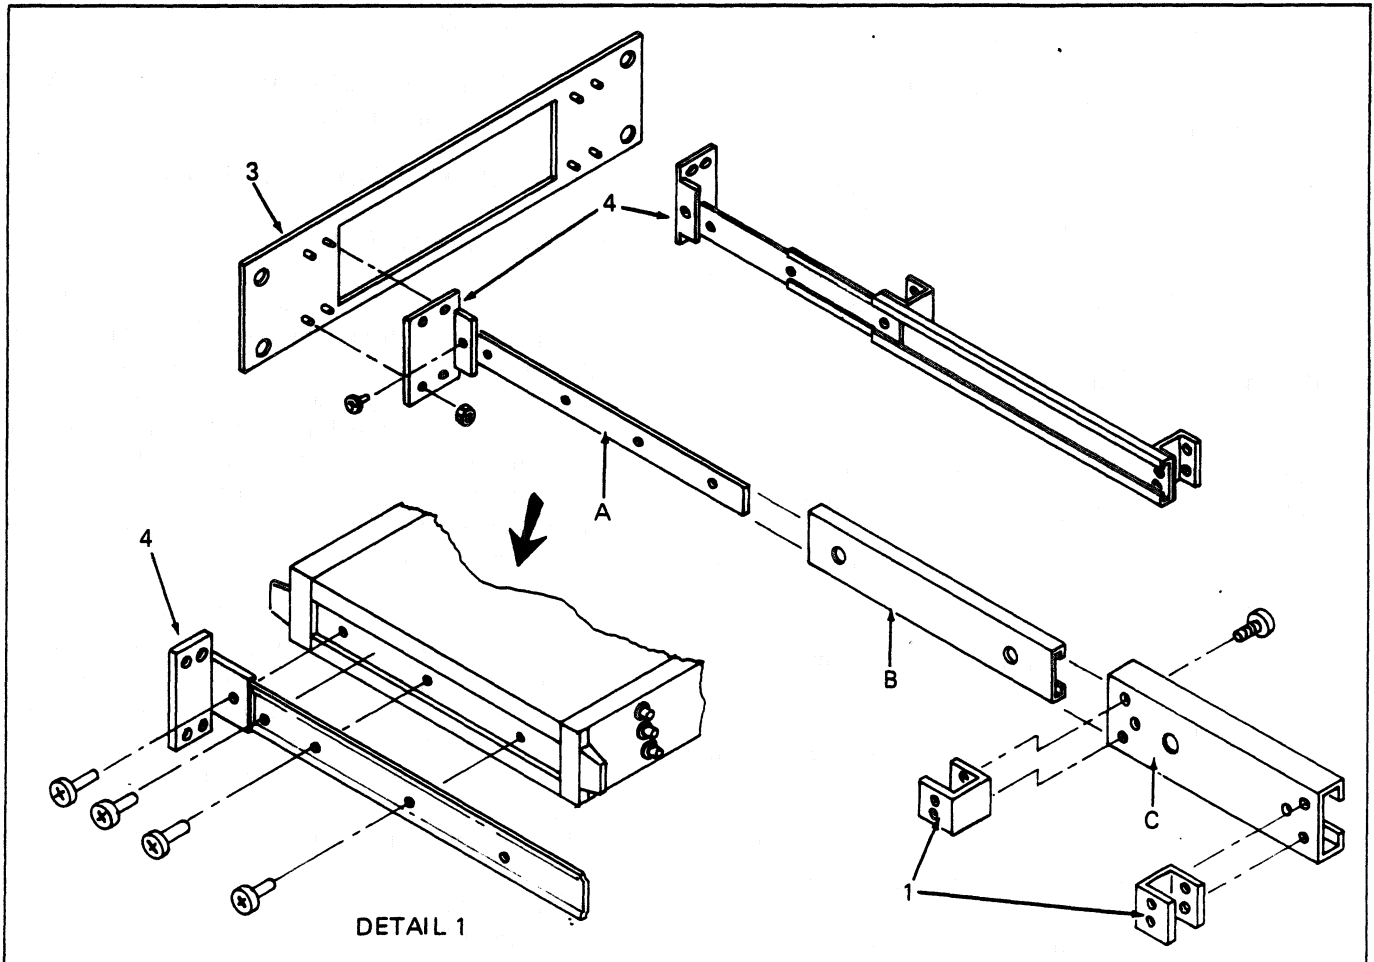

Figure 600-2. Rack Slide Kit
- c. Disassemble the rack slides into sections A, B, and C as shown in Figure 600-2. (Press release buttons.)
- d. Fasten the four mounting brackets (1) to the inside of the equipment rack (console).
- e. Anchor slide section C to the brackets (1) mounted in the console. Use eight 10-32 x 1 1/2" machine screws.
f. Fasten section A of the rack slide and the rack ear (4) to the side of the 1953A. Use eight 10-32 x 1/2" machine screws. See Detail 1 of Figure 600-2.
g. Attach front panel plate (3) to the rack ears (4) using eight 6-32 nuts.
h. Slide rack sections B into section C as shown in Figure 600-2.